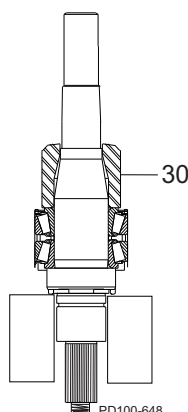

Figure 280 - Install Bearing Spacer
9. Install the bearing spacer (Figure 280, item 30).